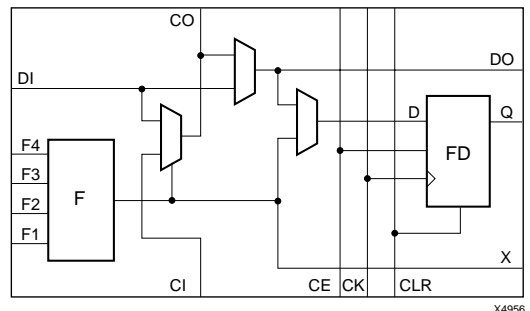

Figure 4: XC5200 Logic Cell (Four LCs per CLB)
The basic logic element in each VersaBlock structure is the Logic Cell, shown in Figure 4. Each LC contains a 4-input function generator (F), a storage device (FD), and control logic. There are five independent inputs and three outputs to each LC. The independence of the inputs and outputs allows the software to maximize the resource utilization within each LC. Each Logic Cell also contains a direct feedthrough path that does not sacrifice the use of either the function generator or the register; this feature is a first for FPGAs. The storage device is configurable as either a D flip-flop or a latch. The control logic consists of carry logic for fast implementation of arithmetic functions, which can also be configured as a cascade chain allowing decode of very wide input functions.